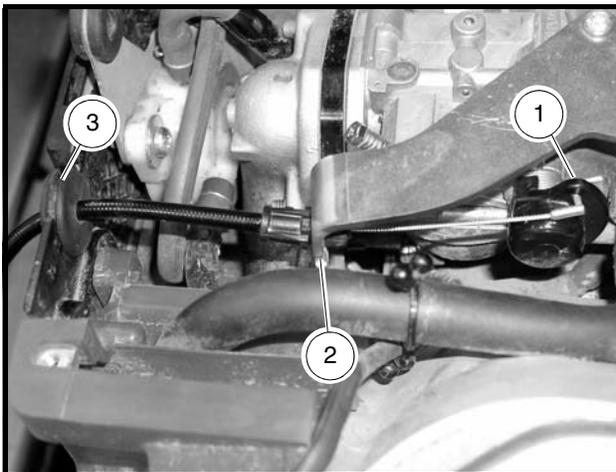

Figure 4-3 Engine Choke Cable at Engine (Gasoline Vehicles)
- 4.4. Remove the Z-shaped cable end (1) from the choke lever (**Figure 4-3, Page 4-3**).
- 2.2. Secure the choke cable Z-shaped cable end to the choke lever (**Figure 4-3, Page 4-3**).